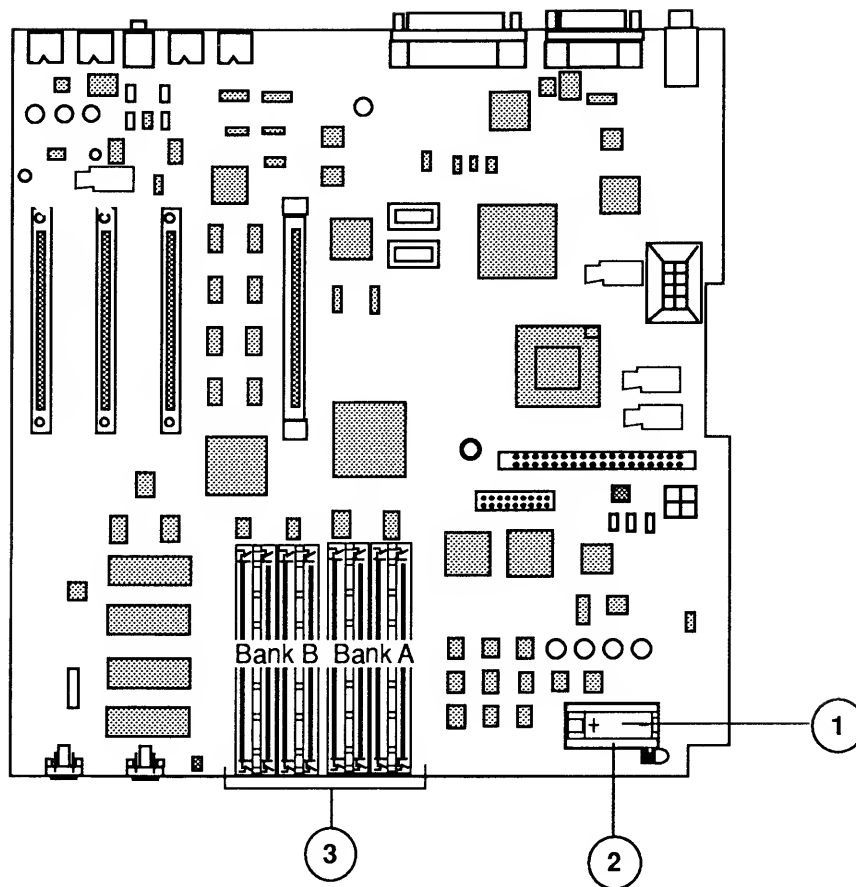

Figure 4 Macintosh IIcx – Logic Board
□ MACINTOSH IIcx – LOGIC BOARD (Figure 4)